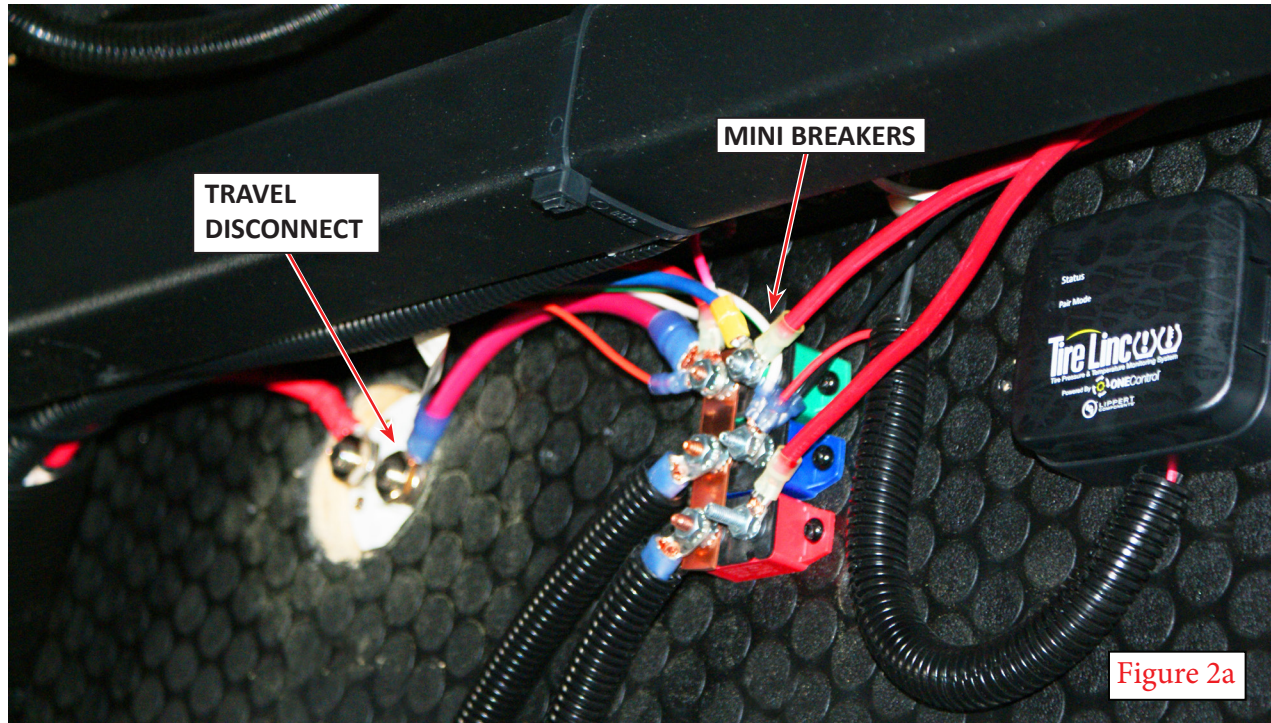

Figure 2a
- Remove the wiring covers for the "Travel Disconnect" switch and the "Mini Breakers" (Figure 2a).